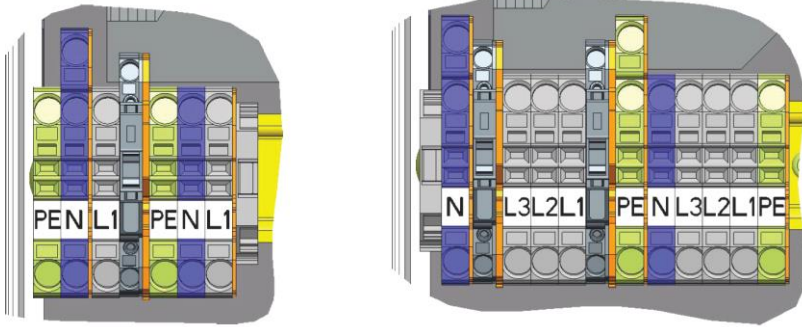

Figure 3
12. Fix the cores at the correct location in the connecting terminals. Always install the earthing first (fig. 3).